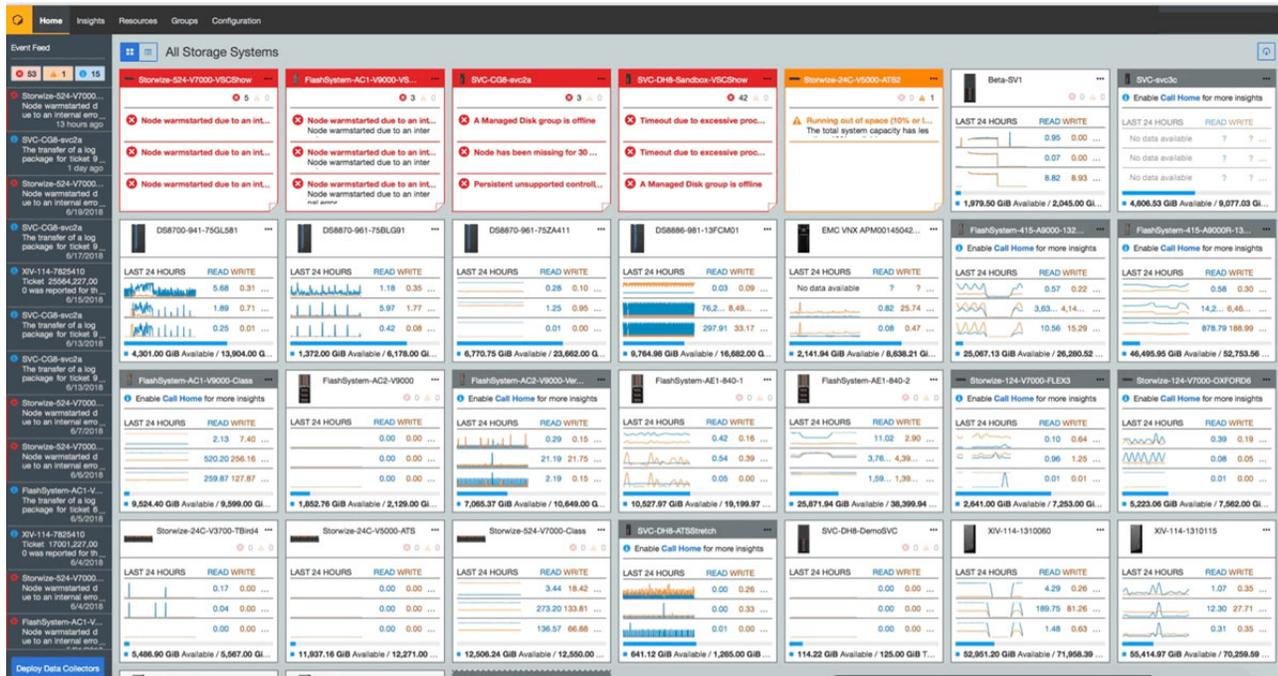

Figure 8 Storage Insights Dashboard.
Figure 8 shows a view of the Storage Insights (SI) main dashboard and the systems that it monitors.